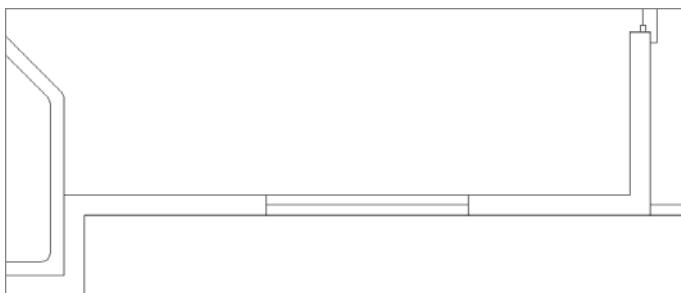

FIGURE 7.39 The new 5'-0" (1525 mm) window in the living room
4. Give the new block an X scale factor of 5, a Y scale factor of 1, and a rotation of 0°. The new window appears as shown in Figure 7.39.